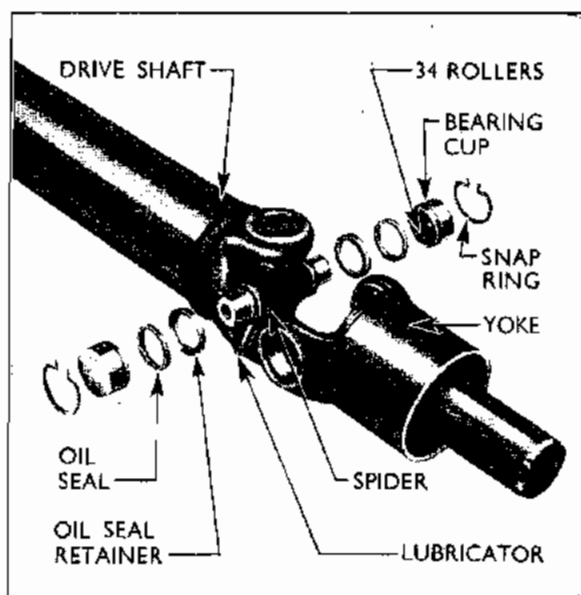

Fig. 4
1. To dismantle, extract each spider bearing snap ring (see Fig. 4), and remove the bearing cups and rollers by gently tapping the yoke at each bearing.